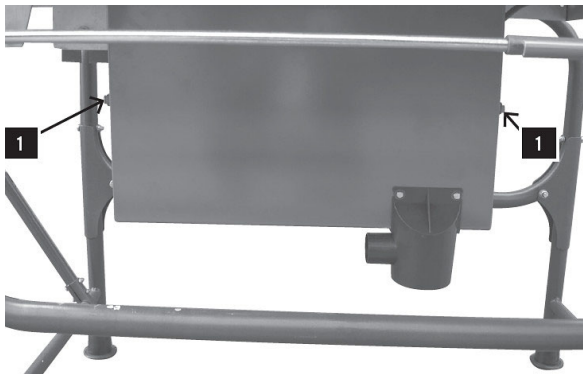

Fig. 21: Loosen the screws of the saw blade cover
Step 2: Unscrew the two M8 screws (Pos.1, Fig.21) on the lower saw blade cover.